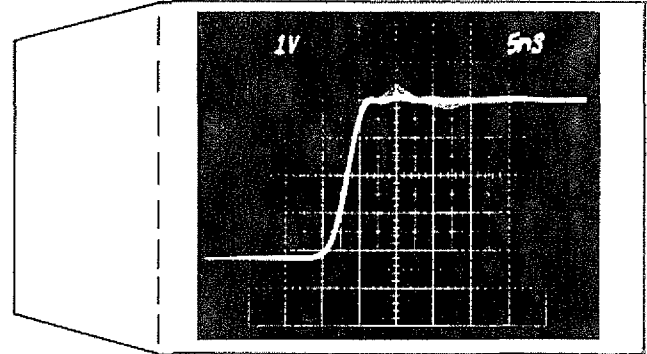

Fig. 9. Changes in the waveform as calibration adjustments are made are readily discernible in this Variable Persistence display.
- Observing the change in the signal while making calibration adjustments (Fig. 9)
The nomograph in Figure 9 is useful for selecting the writing speed needed to display a given sine wave or step risetime (t_r) at a certain amplitude. For example, to display a 16 ns risetime signal three centimeters in amplitude requires a writing speed of $180 \text{ cm}/\mu\text{s}$.